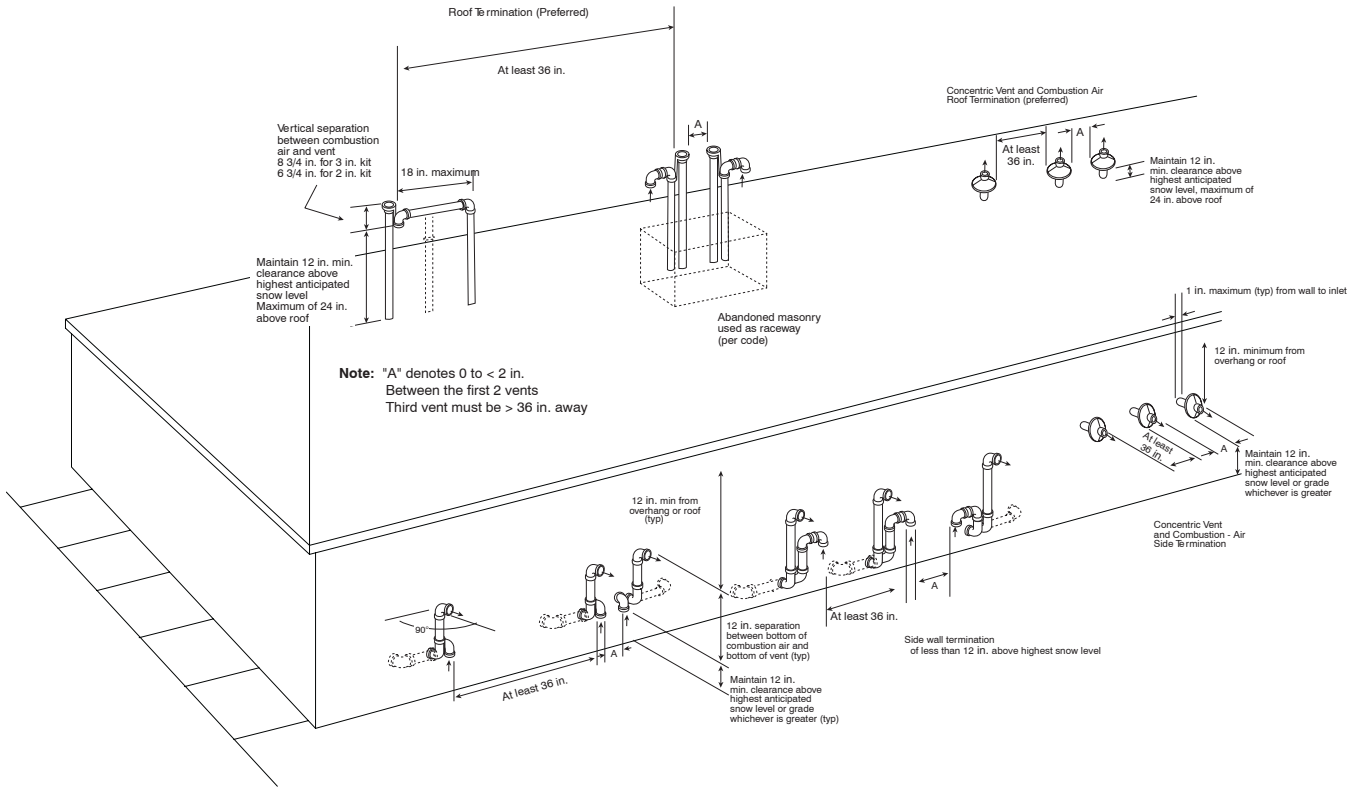
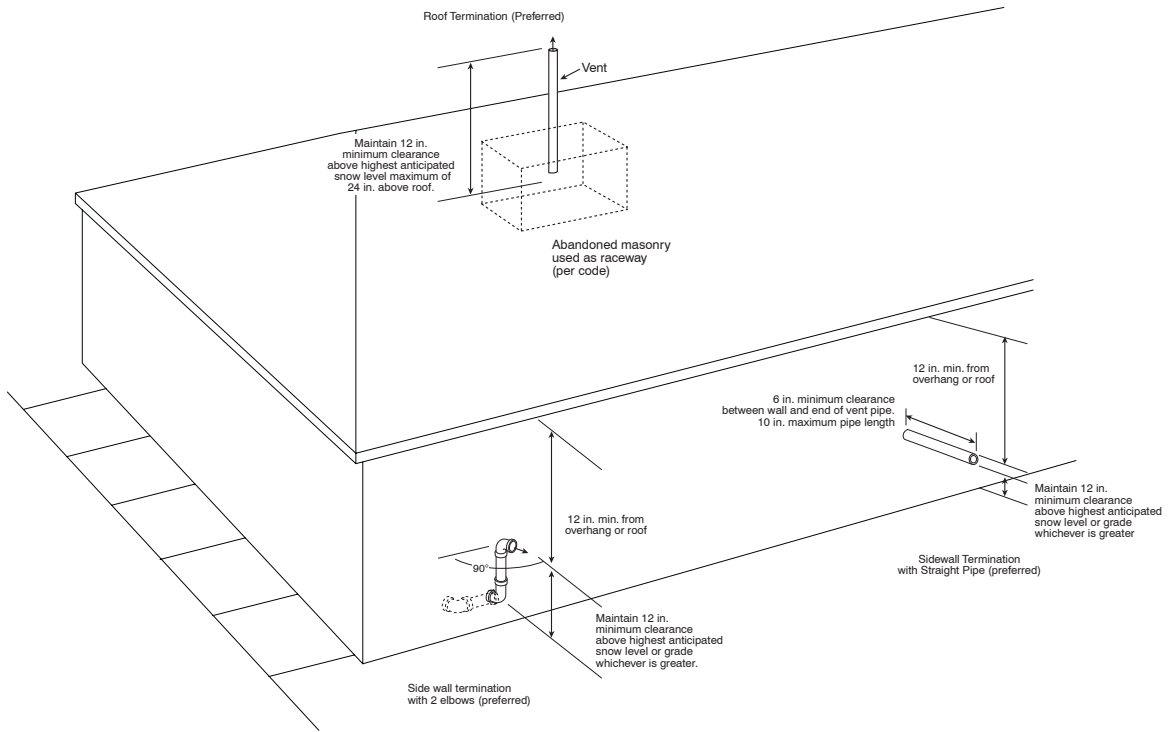

Fig. 43 - Combustion Air and Vent Termination for Direct Vent (2-pipe) System
Fig. 44 - Vent Pipe Termination for Ventilating Combustion Air System
NOTE: Do not count elbows or pipe sections in terminations or within furnace (all elbows shown in Fig. 43 and Fig. 44 are not be counted).
Combustion-air (direct vent/2-pipe system only) and vent pipe must terminate outside structure, either through sidewall or roof. For vent termination clearance, refer to Table 8 for Direct Vent/2-Pipe system and Table 9 for Non-direct Vent/1-Pipe system. For exterior piping arrangements, refer to Fig. 43 for Direct Vent/2-Pipe system and Fig. 44 for Non-Direct/1-Pipe system.
Sidewall combustion air pipe termination (direct vent/2-pipe system only) and vent pipe termination may be extended beyond area shown in Fig. 43 or in Fig. 44 per application in outside ambient by insulating pipe as indicated in Table 10.
Roof terminations—Locate assembly through roof to appropriate height as shown in Fig. 43.
Sidewall terminations—Locate assembly through sidewall with rain shield positioned no more than 1-in. from wall as shown in Fig. 43.
5. Check required dimensions as shown in Fig. 43.
Roof terminations-Loosely install pipe coupling on properly cut vent pipe. Coupling must be positioned so bracket will mount as shown in Fig. 43.
For applications using combustion-air pipe option, indicated by dashed lines in Fig. 43, install 90° street elbow into 90° elbow, making a U-fitting. A 180° U-fitting may be used.
Sidewall terminations-Install bracket as shown in Fig. 43. For applications using vent pipe option indicated by dashed lines in Fig. 43, rotate vent elbow 90° from position shown in Fig. 43.
4. Check required dimensions as shown in Fig. 43.
(Direct Vent/2-Pipe System ONLY)-When 2 or more 58MVB furnaces are vented near each other, 2 vent terminations may be installed as shown in Fig. 43, but next vent termination must be at least 36 in. away from first 2 terminations. It is important that vent terminations be made as shown in Fig. 43 to avoid recirculation of flue gases.